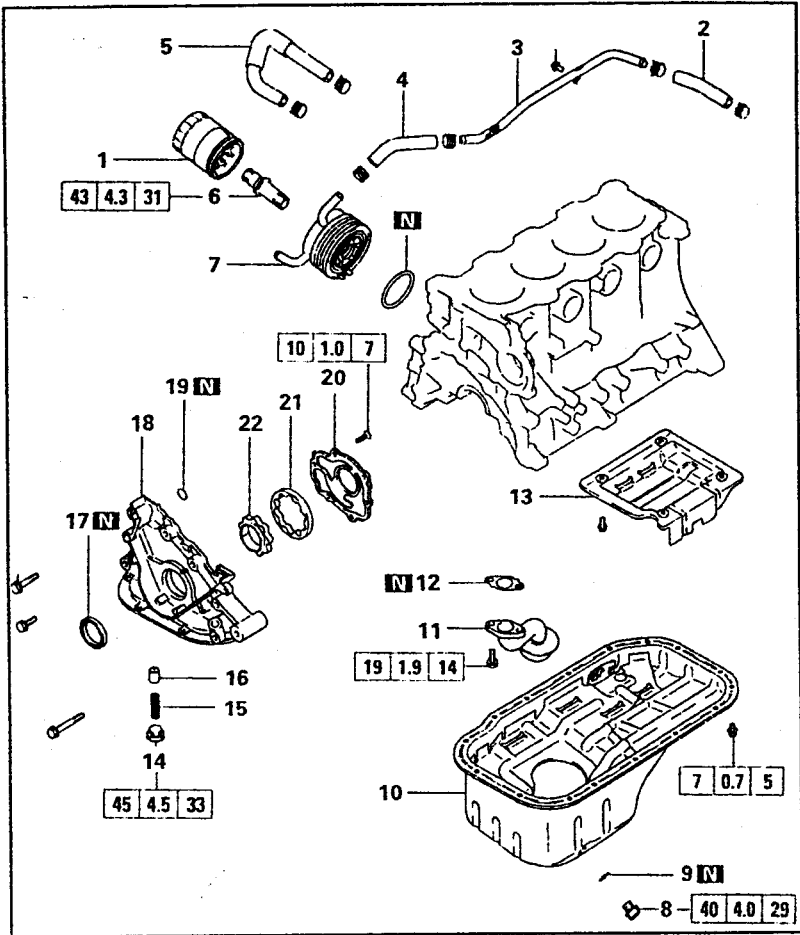

Fig. 2.3 — Front case and oil pump of a 1.8 litre engine.
Fig. 2.3 shows the front end of the engine together with the front case and the oil pump. Some of the parts shown are not fitted to this engine. The oil pump rotors are accessible after removal of the pump housing cover (20).